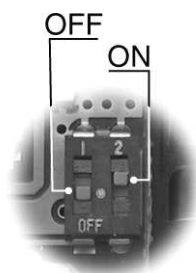

Fig. 4
- open the rear hatch of the key and place the dip-switch n. 1 in the OFF position and the dip-switch n. 2 in the ON position (see Fig. 4). Close the hatch;